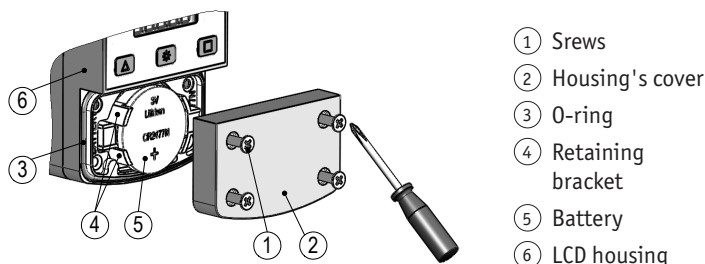

Fig. 9: Battery change
- ▶ Evenly tighten the screws ① until the housing's cover ② is completely aligned with the LCD housing ⑥ (see Fig. 9).
**Deinstallation (see Fig. 9):**
1. The battery compartment is situated behind the cover of the housing's cover ②, below the LC display.
2. Unscrew the screws ① until you hear a click.
4. Remove the housing's cover (2) inclusive the plugged screws.
5. Caution! O-ring (3) may fall out.
6. Optionally bend outward one of the retaining bracket (4) for the battery using your fingers.
7. Grasp the used battery (5) at the upper edge and pull out axially (for the disposal of the old battery refer to chapter 7).
### Installation (see Fig. 9):